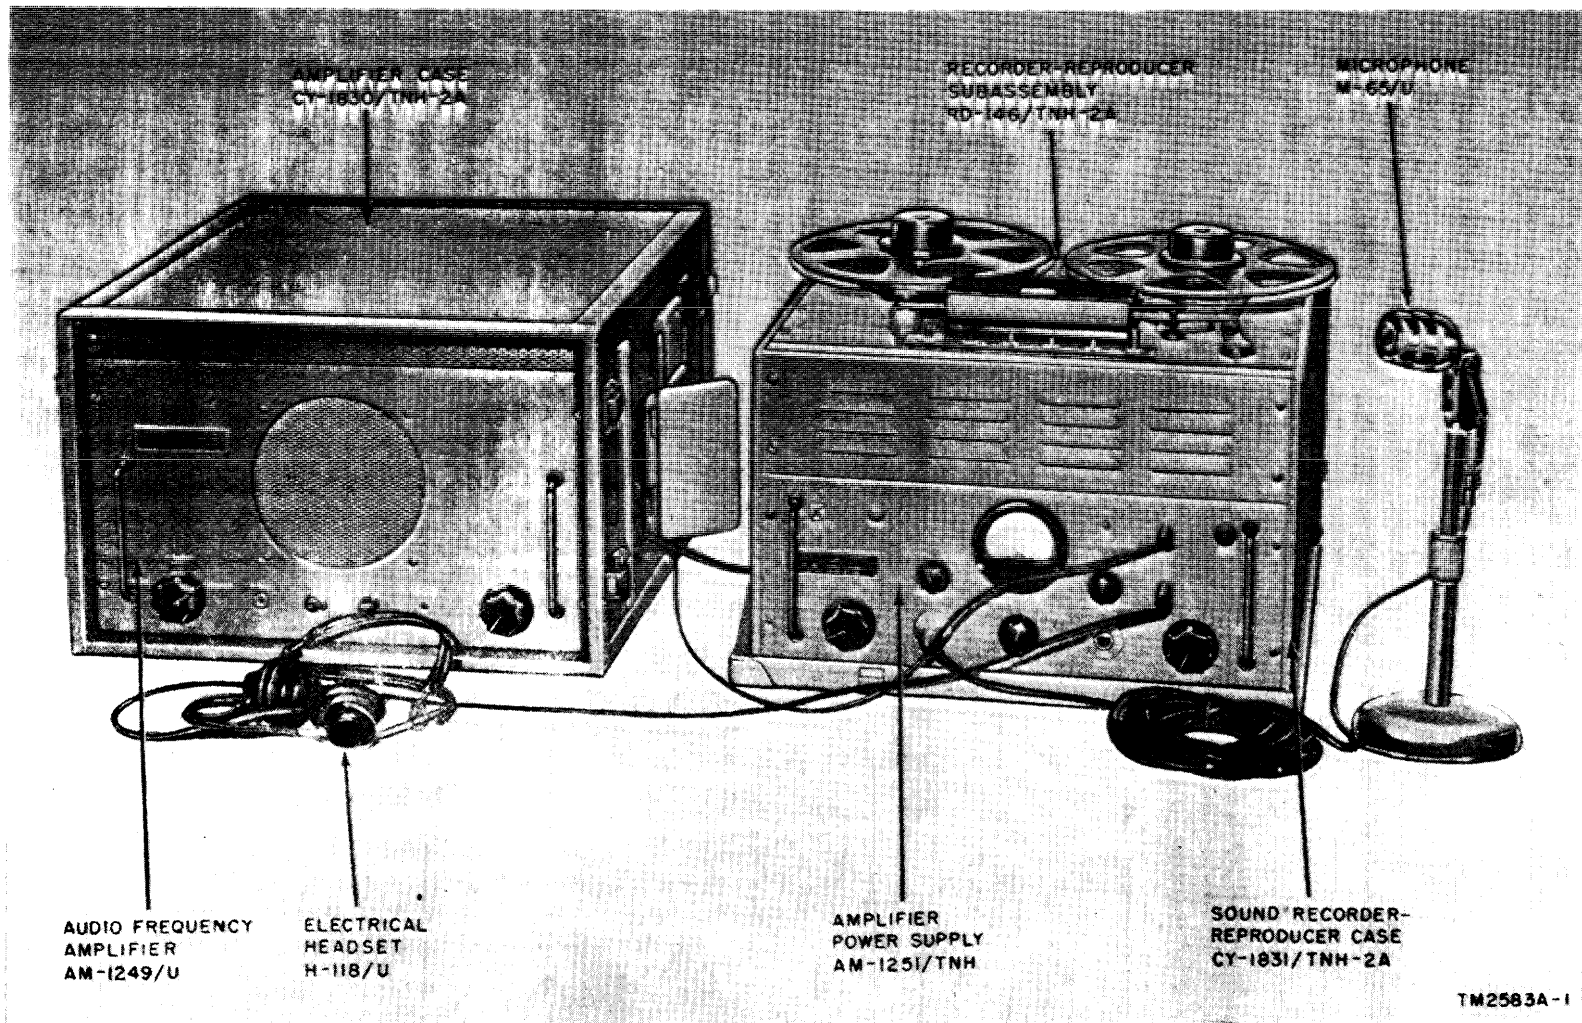

Figure 1. Sound Recorder-Reproducer Set AN/TNH-2A, set up for operation
g. Move the knob of the splicer to the trim position and press the lever down. Trimmed splicing tape should be slightly narrower than the recording tape (C, fig. 1 1.1)
a. This manual contains information on the operation, theory and maintenance of Sound Recorder-Reproducer Set AN/TNH-2A (fig. 1).
Sound Recorder-Reproducer Set AN/TNH-2A (fig. 1) is a self-contained portable electro-mechanical half-track magnetic tape recorder and reproducer for making and reproducing sound recordings. The sound is recorded on and reproduced from a 2,400-foot magnetic tape moving at a rate of either 7 ½ inches per second (ips) or 15 ips.
5. Table of Components (fig. 1 through 4)
b. *Amplifier-Power Supply AM-1251/TNH* (fig. 1). This unit contains the recording amplifier, the reproducer amplifier, the bias erase-oscillator, and a power supply. The front panel mounts the controls for operating these circuits, as well as a record level indicator, a volume unit (vu) meter, and the necessary connectors and jacks for interconnecting the components. The rear panel of this unit mounts the fuses and connectors for alternating current (ac) input power. The rear panel is accessible after opening the access door at the rear of Sound Recorder-Reproducer Case CY-1831/TNH-2A.
c. *Recorder-Reproducer Subassembly RD-146/TNH-2A* (fig. 1). This subassembly is an electromechanical unit which contains the tape-transport mechanism, the sound head assembly, and the operating controls mounted on the front panel. The under portion of the panel mounts the motors, the electronic components, and the connectors for power and signals.
e. *Audio Frequency Amplifier AM-1249/U* (fig. 1). This unit contains a power amplifier and a power supply circuit. The front panel mounts the loudspeaker, a level control, a selector switch, a pilot light, fuse, and the necessary output jacks. The rear panel of the unit mounts the power connector and signal input connector. The rear panel is accessible after opening the access door at the side of Amplifier Case CY-1830/TNH-2A.